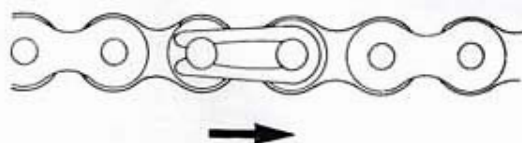

Fig. 4
- Fit the joint clip (flat nose pliers) (fig. 4).
- Fit the link clip (flat nose pliers) (fig. 4).